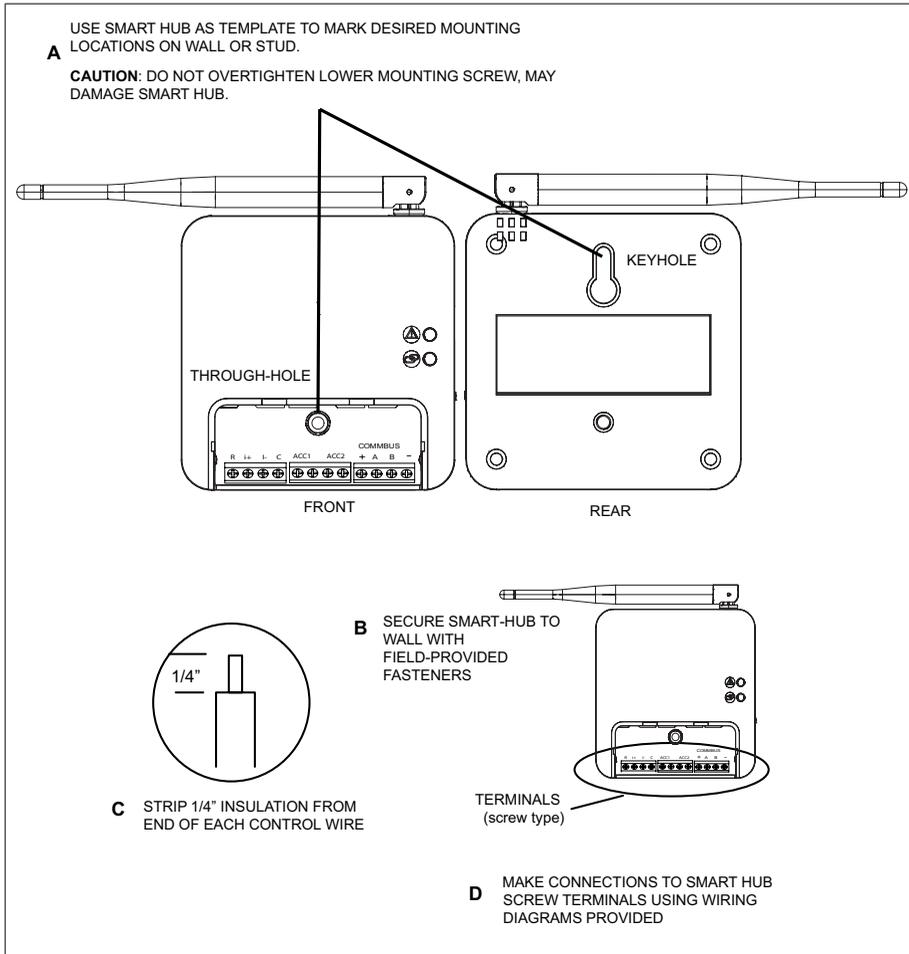

Figure 1. Smart Hub Installation
2. Use the procedure outlined in "Figure 1. Smart Hub Installation" on page 4 to install the Smart Hub controller.